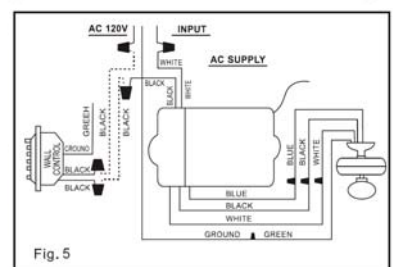

Fig. 5
**Step 3.** Carefully tuck the wire connections inside the outlet box. Use the screws provided to secure the wall transmitter and wall plate to the outlet box. (Fig. 5)